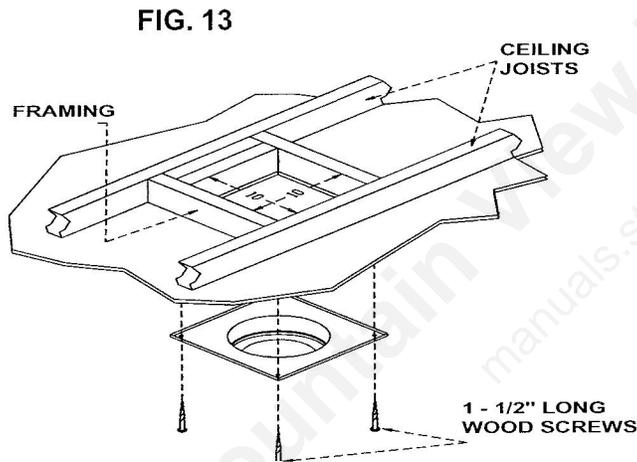

FIG. 13
To install the round support box/wall thimble in a flat ceiling, cut a 10" (25.4cm) square hole in the ceiling, centered on the hole drilled in Step 2. Frame the hole as shown in **Figure 13**.
- (1) For multi-story vertical installations, a ceiling firestop (SDV part #963) is required at the second floor, and any subsequent floors (**Figure 16**). The opening should be framed to 10" x 10" (25.4cm x 25.4cm) inside dimensions, in the same manner as shown in **Figure 13, page 29**.
- (2) Any occupied areas above the first floor, including closets and storage spaces, which the vertical vent passed through must be enclosed. The enclosure may be framed and sheetrocked with standard construction materials; however, refer to these installation instructions for the minimum allowable clearance between the outside of the vent pipe and the combustible surfaces of the enclosure. Do not fill any of the required air space with insulation.